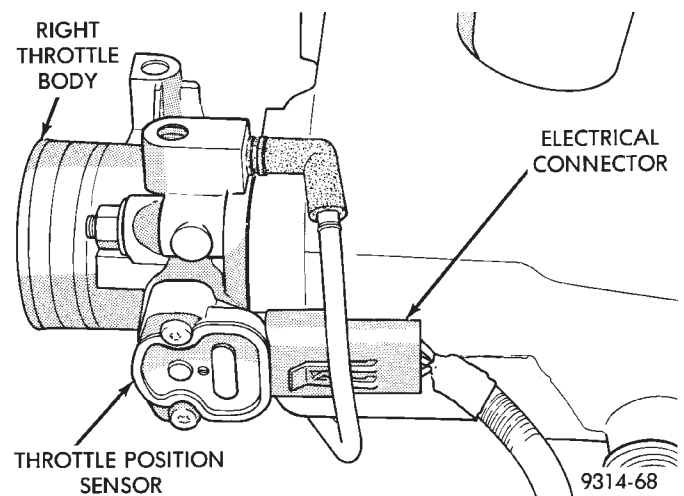

Fig. 63 Throttle Position Sensor—3.5L Engine
The TPS is attached to the right throttle body (Fig. 63).
- (1) Disconnect the TPS electrical connector (Fig. 63).
- (2) Remove the TPS mounting screws.
- (3) Remove the TPS.